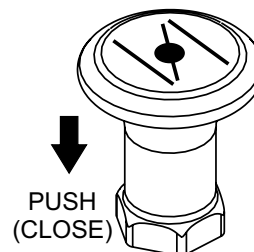

Figure 22. Choke Lever (Closed Position)
4. If operating the saw in cold weather conditions, place the Choke Lever (Figure 22) in the **CLOSED** position.
9. Once the engine has started, slowly return the choke lever (Figure 22) to the **CLOSED** position. If the engine has not started repeat steps 4 through 8.